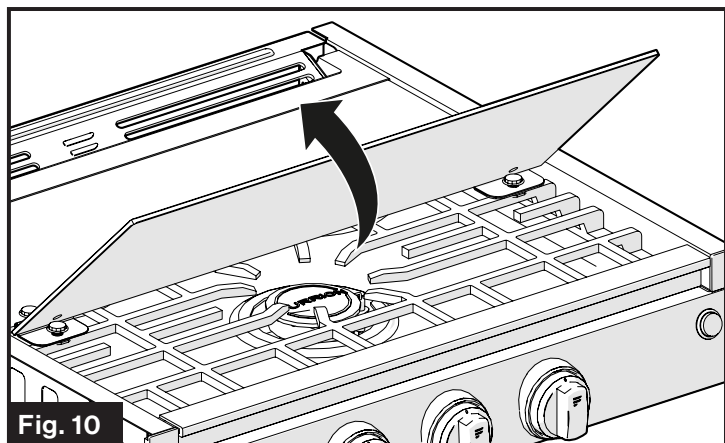

Fig. 10
1. Lift to open the cooktop top glass cover. (Fig. 10) The top glass cover must be kept open when lighting and using the cooktop.